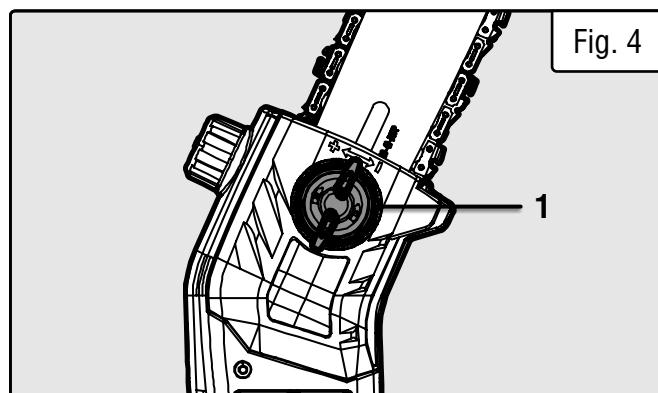

Fig. 4
2. Turn the cover release knob (Fig. 4 - 1) counterclockwise to remove the cover from the saw's body.